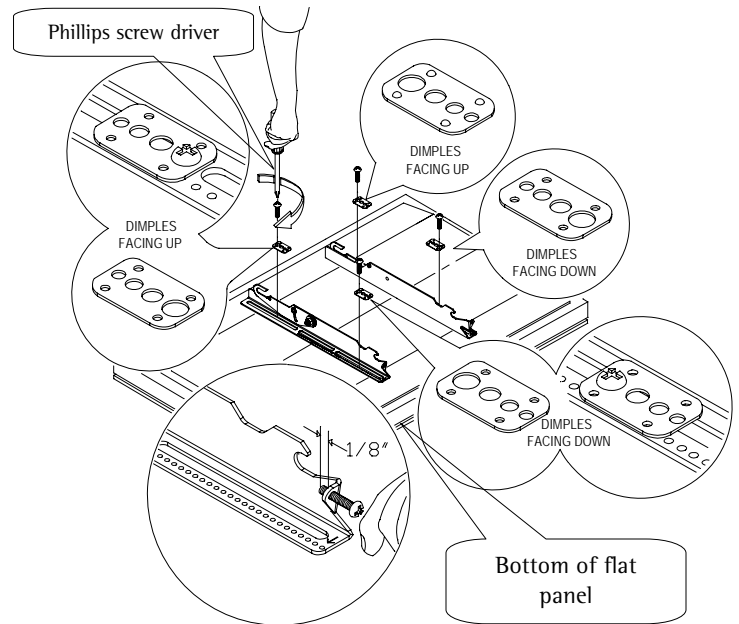

Figure 7
NOTE: The dimples of the top plates have to be facing up and the bottom dimples must be facing down. Use (1) Griplate™ per mounting point (Figure 7).